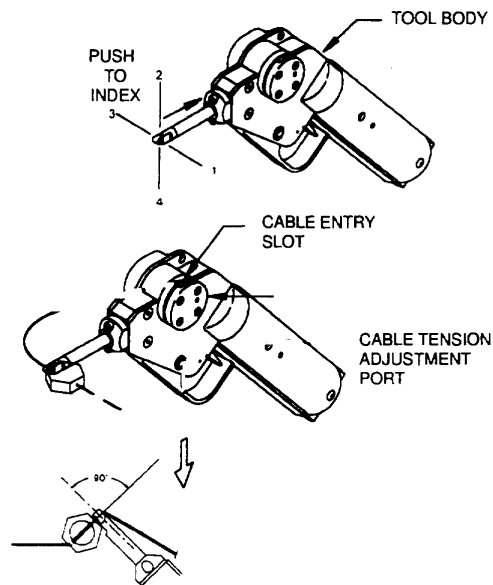

Figure 2-99. Pneumatic Safety Cable Application Tool
c. *The Pneumatic Safety Cable Application Tool.* (See figure 2-99). Connect the pneumatic safety cable tool to a clean, dry air supply of 80 to 100 psi.
(1) Install the safety cable through the fasteners which are to be secured.
(2) The nose can be indexed to four positions in 90° increments. To select the position, push the nose in towards the tool and rotate to the desired position. Release the nose. If the nose does not lock into the indexed position, turn it slightly until it snaps into position and locks.